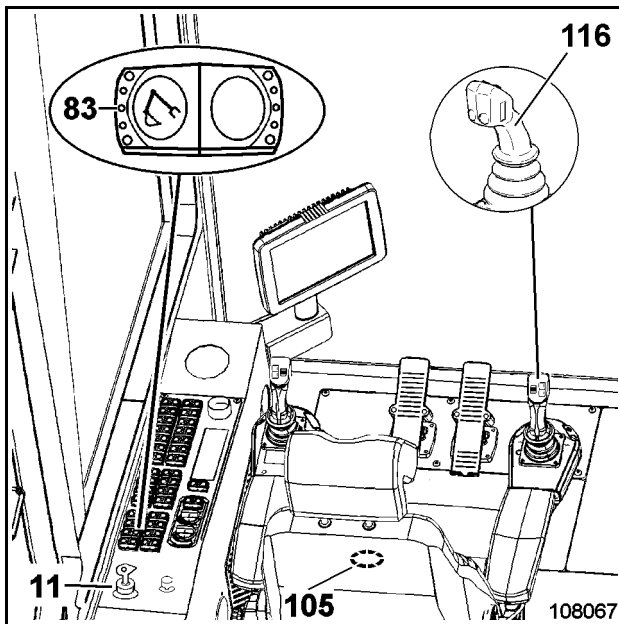

Fig. 2-144:
- Switch on electrical system (24V) with key-operated switch (11, Fig. 2-144:).
- Actuate switch (83) and hold.
- Push control lever (116) forwards. The working equipment comes to the ground.